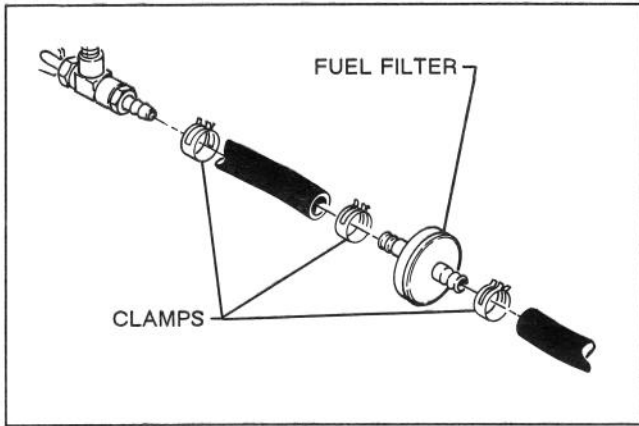

Figure 18
30. Reinstall end of fuel line to fuel tank shutoff valve and secure with clamp (Fig.18).
31. Secure fuel tank and upper tank bracket to engine with (2) bolts previously removed. Torque bolts to 18.64 N.m (165 in. lbs.).
32. Cut existing fuel line in half and install fuel filter with (2) clamps.